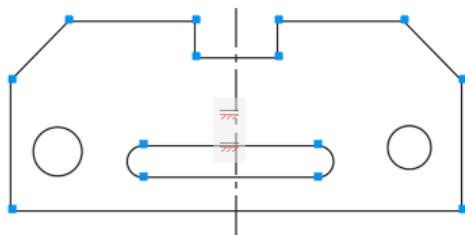

Figure 1-14 Sketch after applying the Coincident constraint
17. Draw a slot using the **Center**, **Start**, **End** arc and **Line** tools. The sketch after drawing the circles and the slot is shown in Figure 1-14. You can also draw the profile of the slot using the **Polyline** tool. However, the sketch in this example has been drawn using the **Center**, **Start**, **End** arc and **Line** tools.